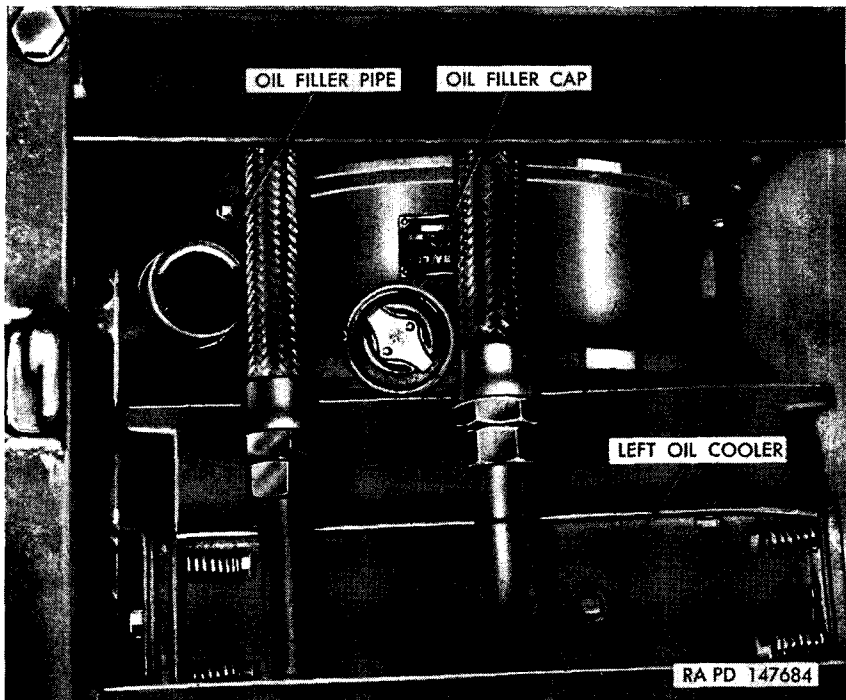

Figure 104. Oil filler pipe.
d. **FILL ENGINE LUBRICATION SYSTEM.** Raise the engine compartment three rear left grille doors (fig. 101) to reach the engine oil filler cap (fig. 104). Pour engine oil, as specified on lubrication order (fig.